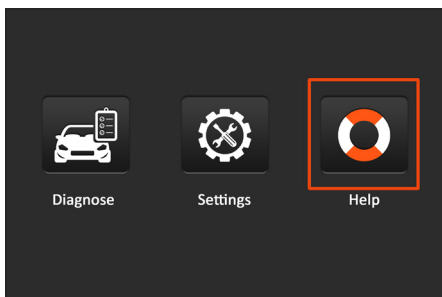

Figure 7-1
2. After the tool is powered on, place cursor on the Help icon and press the [OK] button. (Figure 7-1)